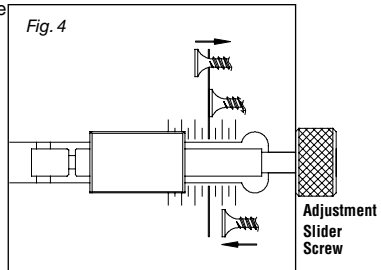

Fig. 4
- Turn it to the right to drive the screws deeper and to the left to adjust to a shallower drive. When the depth is adjusted properly, turn the knob until it locks. (See Fig. 4)